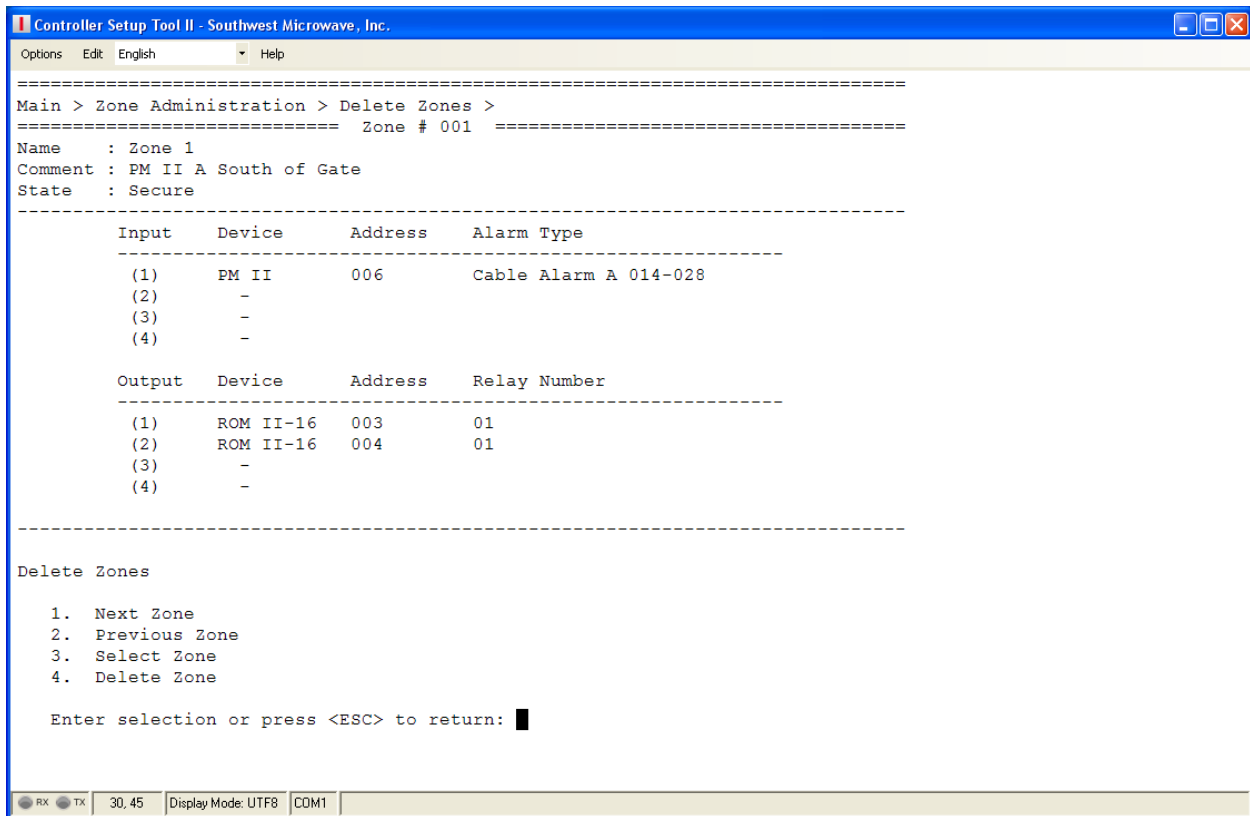

Figure 43 – Delete Zones Screen
Selecting command 3 from the Zone Administration Menu will open the “Delete Zones” screen as shown in Figure 43. There will be four (4) command selections available: Next Zone, Previous Zone, Select Zone and Delete Zone. Once a Zone Record has been completed, any existing Zone Record can be deleted using this menu. Next (1) and Previous (2) tab through all defined Zone Records. Select Zone (3) allows entering the Zone Record to be deleted. Delete Zone (4) will delete the record. A prompt for Yes or No will be displayed. Select action and press enter.